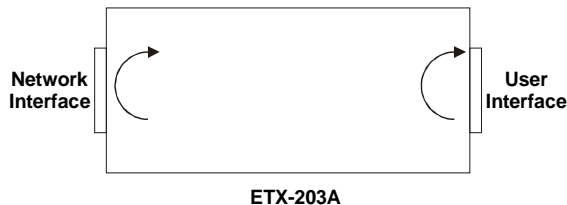

Figure 6-5. Local Loopback
- Local – Loopback is closed towards the user interface (Figure 6-5)